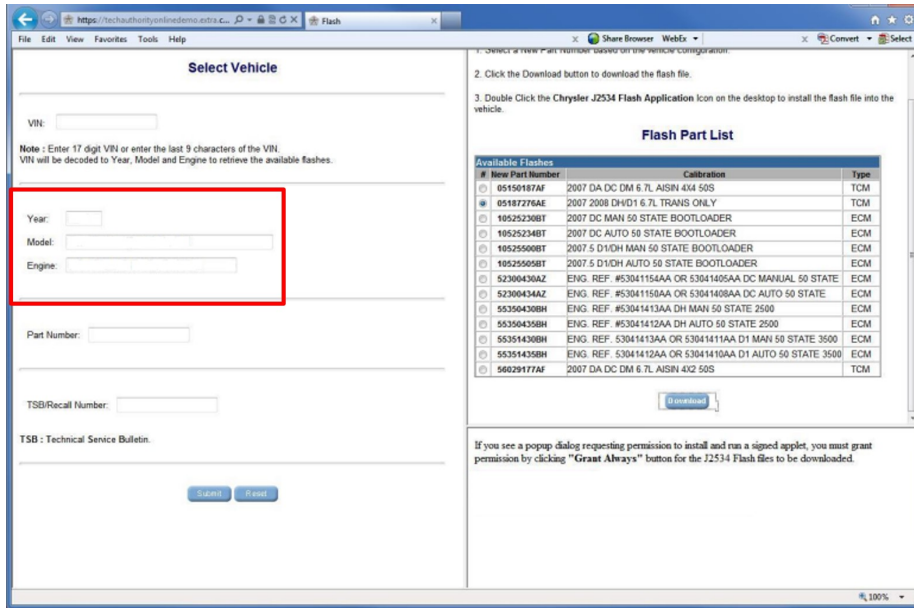

Fig. 2
6. From the “Vehicle Selection” screen, select the vehicle to be updated (Fig. 2) .